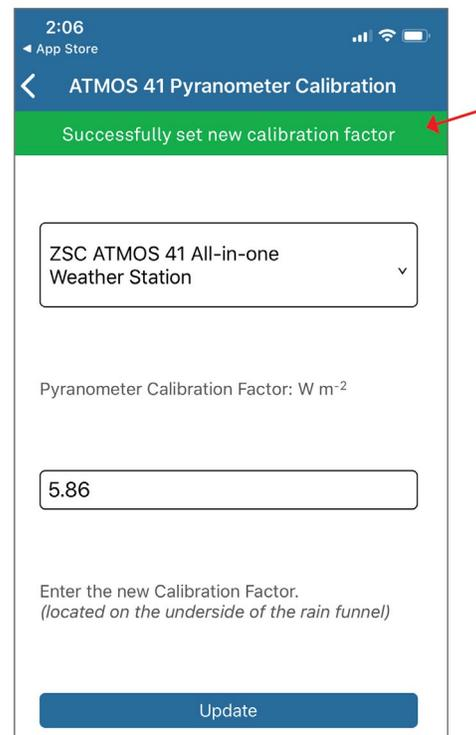

Figure 18. Verify CAL Factor value
15. Verify the ATMOS 41 Pyranometer Calibration screen returns the following message (Figure 18):